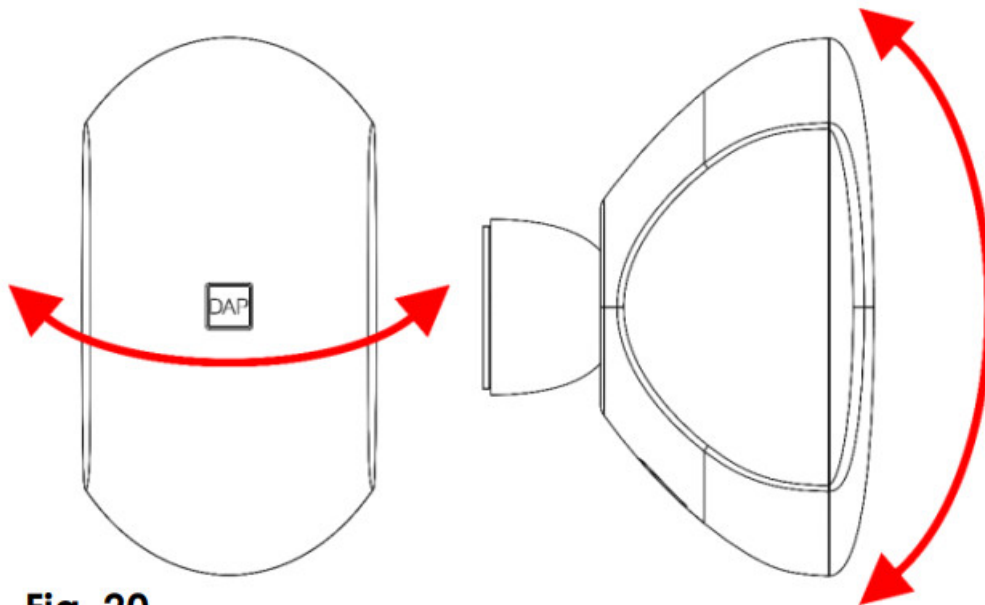

Fig. 20
3. Tilt the device. The tilt range is 30° in all directions (Fig. 20).